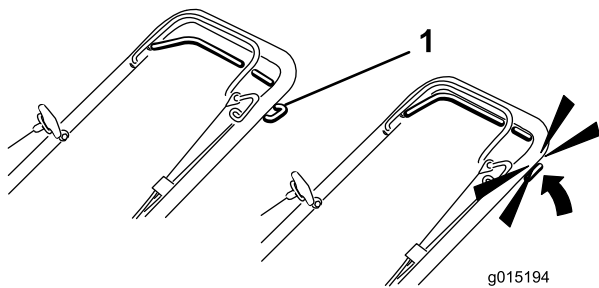

Figure 24
- To operate the self-propel drive, squeeze the self-propel drive bar against the handle and hold it (Figure 24).